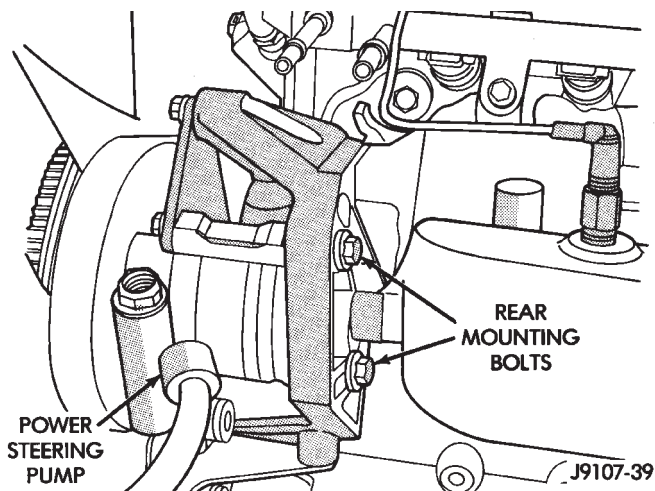

Fig. 1 Powering Steering Pump Rear Mounting Bolts—Except XJ With 4.0L
- (1) Disconnect negative cable from battery.
- (2) Loosen rear mounting bolts (Fig. 1 or 2).
- (9) Place serpentine belt over pulley.
- (10) Belt tension adjustment is made at power steering pump or idler pulley (Figs. 1 or 2).
- (11) Turn adjusting bolt until belt has correct tension. See Belt Tension in Specifications.